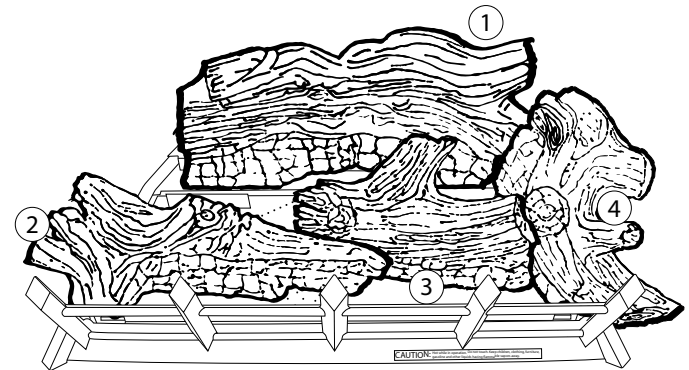

Figure 46
4. Place the right log (#4) on the bar located on the right side of the burner. (See Figure 46.)